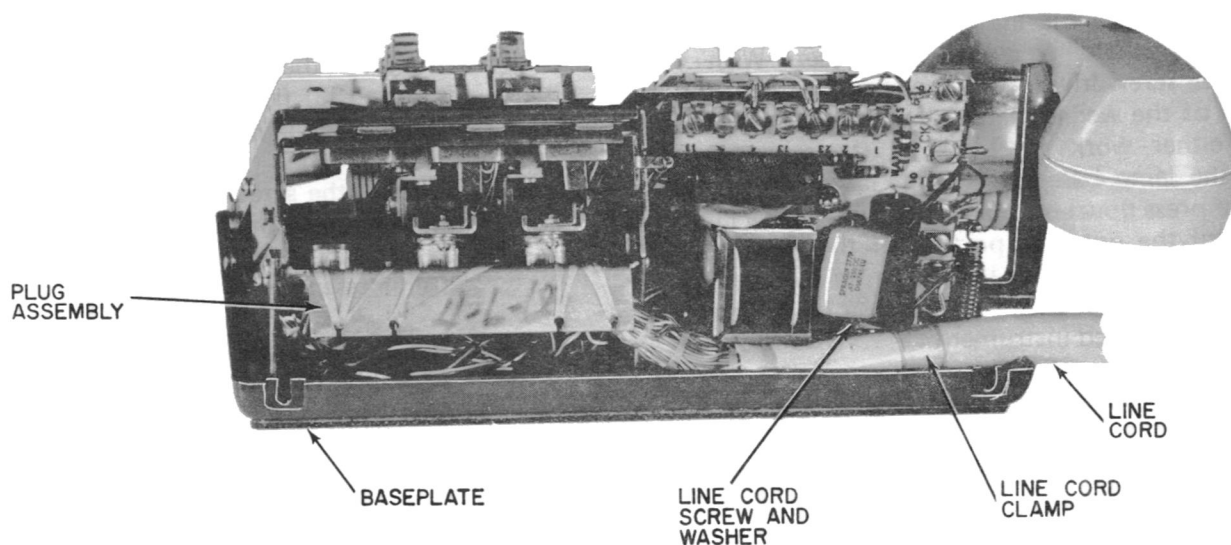

Figure 5. Type 860 Key Telephone Set, Rear View.
- (1) Disconnect all leads extending from the line cord and plug assembly to the terminal board assembly and transmission unit.
- (2) Remove the screw (45, 46), washer (47) and cord clamp (48) securing the line cord to the baseplate (Figure 5).
- (3) Lift the line cord and plug assembly up and out of the baseplate.
- (1) Route the line cord through the U-shaped opening at the left rear portion of the baseplate (43) behind the cradle hook assembly (60) (Figure 5).
- (2) Allow enough cord slack to permit the plug assembly to rest comfortably on the floor of the baseplate.